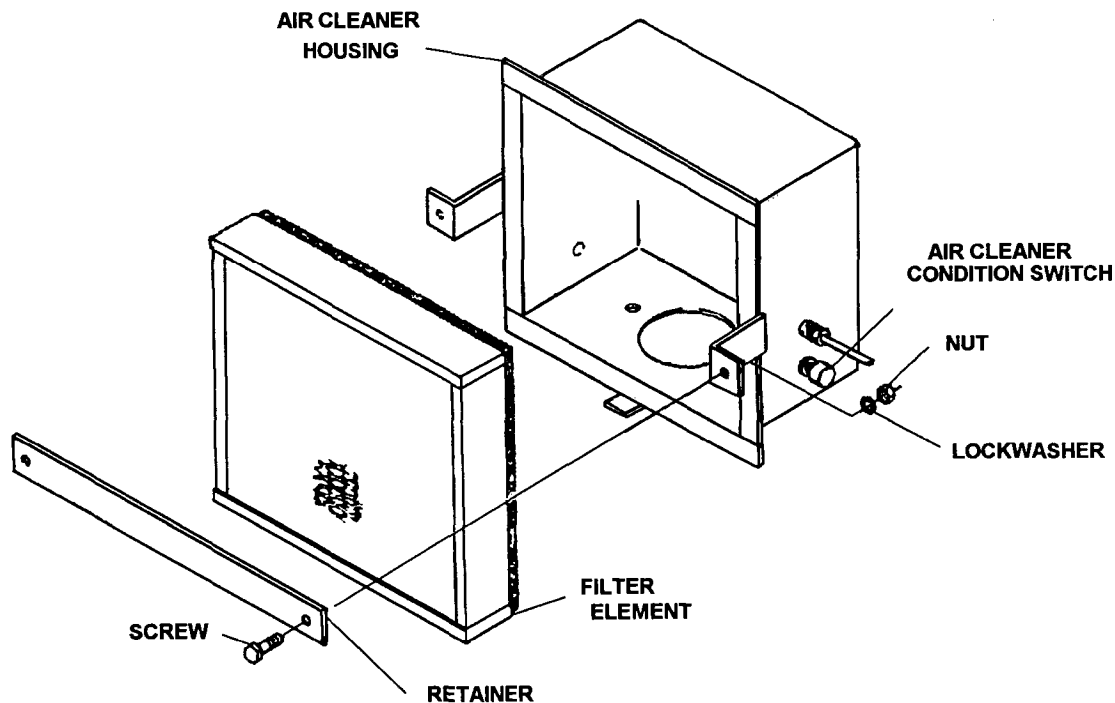

Figure 4-31. Servicing the Engine Air Cleaner
- (1) Remove nuts, lockwashers, screws and retainer (Figure 4-31).
- (2) Carefully remove dirty filter element from housing.
- (3) Soak and agitate filter element for 15 minutes in a solution of warm water and mild detergent.
- (4) Rinse filter element until clean and air dry for approximately 24 hours.
- (5) The filter element may also be cleaned with low pressure (40 psig MAX), filtered compressed air.
- (6) Place a light behind the cleaned filter element and check for holes, tears or other defects. Replace if defective.
- (7) Clean interior of housing.